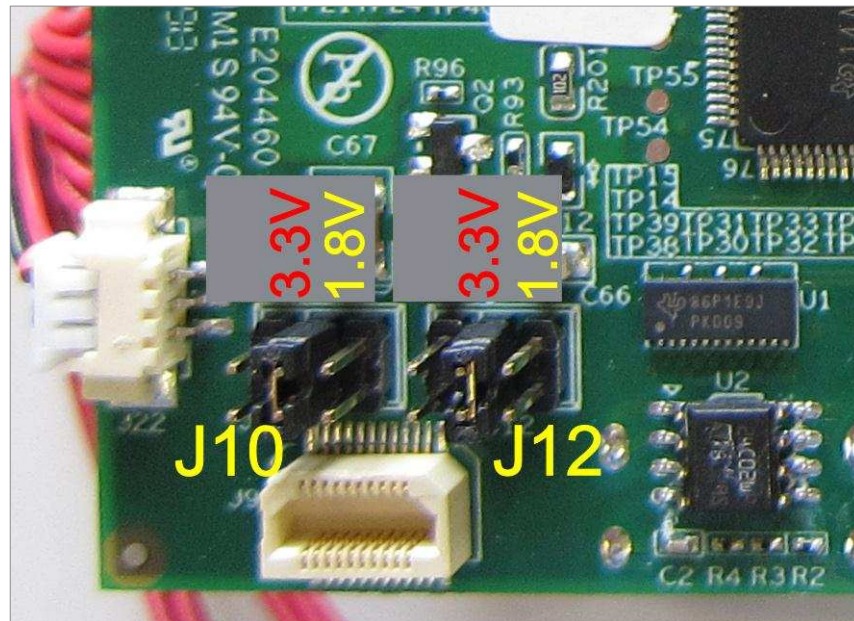

Figure 1-10. DLP LightCrafter 4500 J10 and J12 Voltage Jumpers
- J10: DLPC350 TRIG1_IN voltage selection. See to Figure 1-10.
- J12: DLPC350 TRIG2_IN voltage selection. See to Figure 1-10.